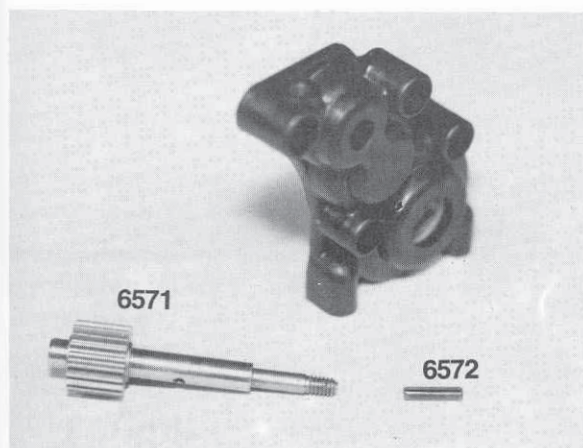

Fig. 54
□ **Figs. 54 & 55** 1) Open bag D and remove the #6571 drive gear/shaft assembly. 2) Carefully deburr the roll pin hole in the drive gear shaft. We are trying to make sure the hole is not blocked and that there are no raised edges around the hole that will prevent the bearing or bushing from sliding onto the shaft. Be sure to deburr both sides of the hole. 3) Now insert the #6571 drive gear/shaft through the upper bearing in the right case half. The shaft will be on the outside of the case and the gear on the inside against the ball bearing.